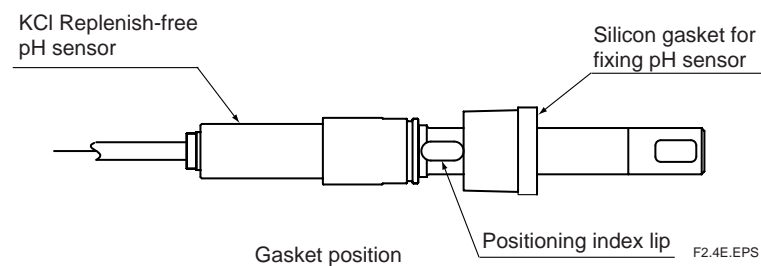

Fig. 2.4
- Insert the sensor into the removed gasket until it comes in contact with the index lip (See Fig 2.4).